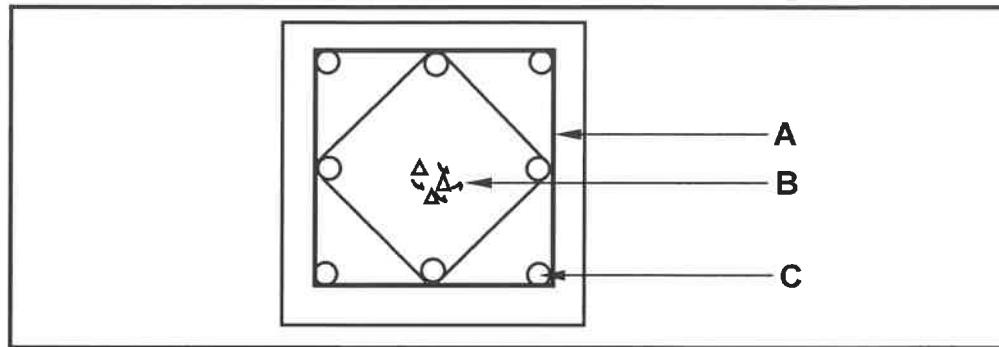

FIGURE 6.5
6.5 FIGURE 6.5 below shows a sectional view of a reinforced concrete column.